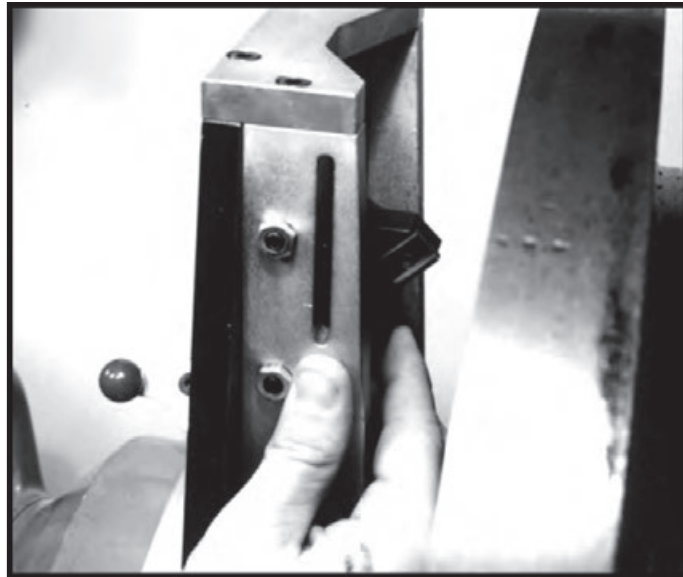

Figure 3-20.
12. Install the tooling in to the flange facer tool slide slot. (Figure 3-20). Refer to the tool holder/